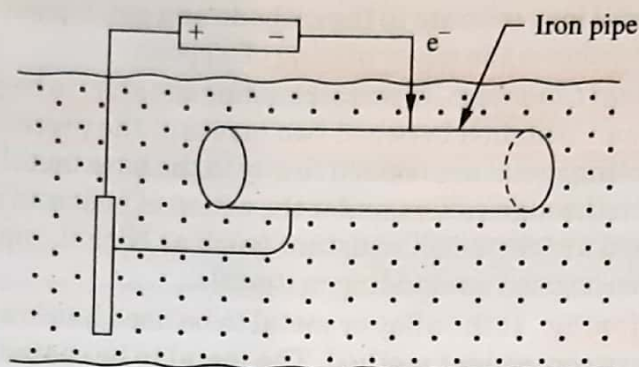

Fig. 5.20 Impressed Current Cathodic Protection
- (ii) **Impressed Current Cathodic Protection:** This method, known as electrolytic method of cathodic protection, the object to be protected is made cathode by connecting it to negative terminal of DC source. The positive terminal is connected to a insoluble anode like graphite, scrap iron or platinum. The objective is to apply the current from an external source (insoluble anode) in the opposite direction to that of the corrosion current. The insoluble anode is buried in the soil or in the conducting medium adjacent to the metal which is to be protected (Fig. 5.20) These are placed in such a manner that a uniform potential is obtained over the entire metal surface. The electrons flow to the metal structure and as a result it act as cathode and is protected. The anode has to be replaced periodically.